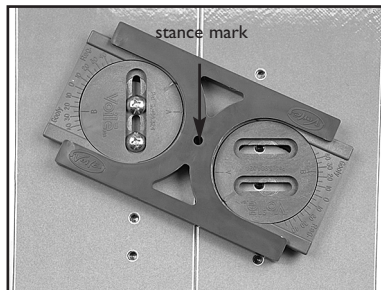

FIGURE 7
5.) Setting up your front foot first, place both Pucks into the Puck Alignment Guide and match the location hole in the center of Alignment Guide to the stance mark you made on the board for your front foot. Using 2 M6 x 12mm pan-head screws, screw through the Disc with In-line slot on the toe-side. Do not tighten complete. This will allow you to slide the Alignment Guide fore and aft in order to line up the Disc with Parallel slots on the heel side to the inserts in the board. If you can not get the Parallel slot disc to line up with the board inserts, try to flip the disc to the mark label A if using B and vice versa. (See Figure 7)